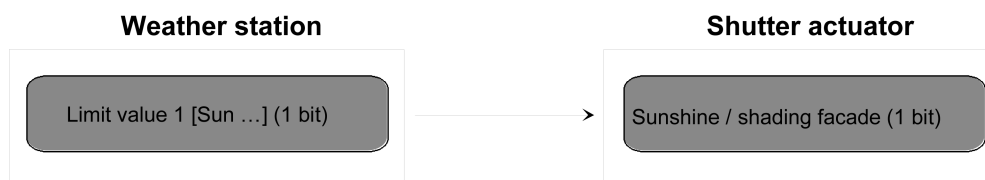

Figure 27: Programming of the communication objects for application example I
- fixed positions setting.(figure 27)